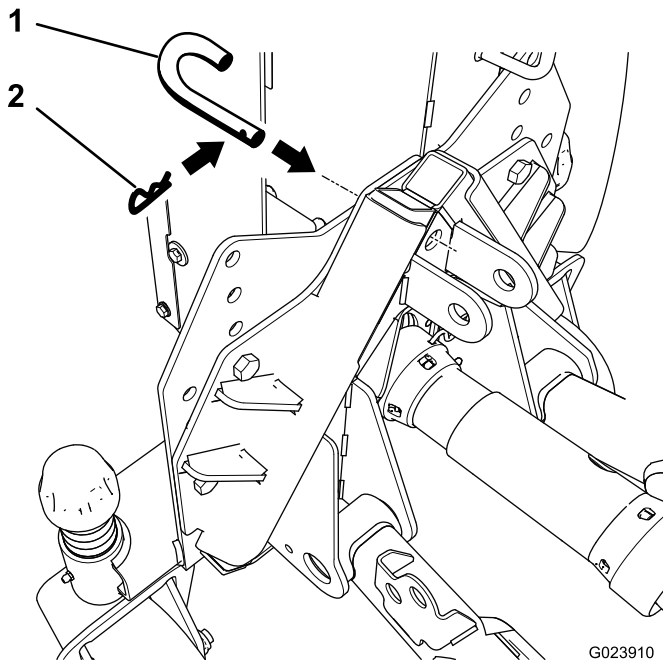

Figure 12
4. Insert the locking pin through the adapters and secure with a hairpin cotter (Figure 12).